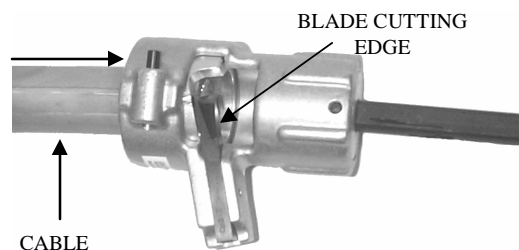

Fig. 4
**Step 4.** (Fig. 4) To strip the insulation, insert the cable into the WS6 until it comes in contact with cutting edge of the blade. Always check the blade position with respect to the conductor, before stripping the insulation.